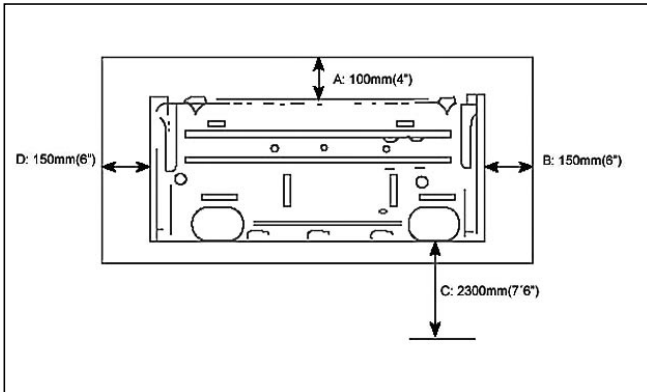

Fig. 9.1 Dimensions of the hole for the piping.
In the event of laying the rear piping, a suitable hole must be made (see Figure 9.1).
- Drill a hole in accordance with the diameter indicated in Figure 9.1, slightly descending to the outside.